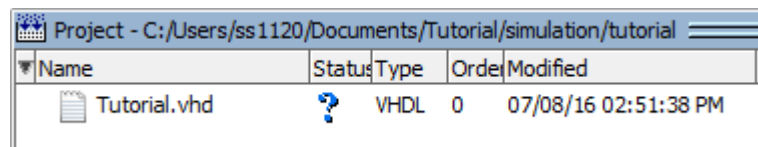

Figure 1.3: VHDL file loaded after step II.B.2.h.
- h. Click the **Close** button to close the **Add Items to the Project** window. One VHDL file should be listed in the **Project** pane and it should look similar to Figure 1.3.